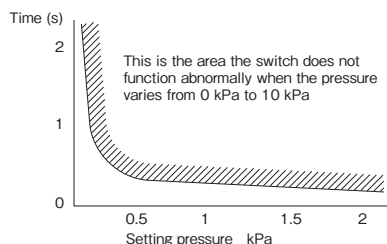

Figure-1
- 3) Differential pressure switch so the switch may malfunction rate of variation in the reference pressure, please use the operating range shown in the figure-1.